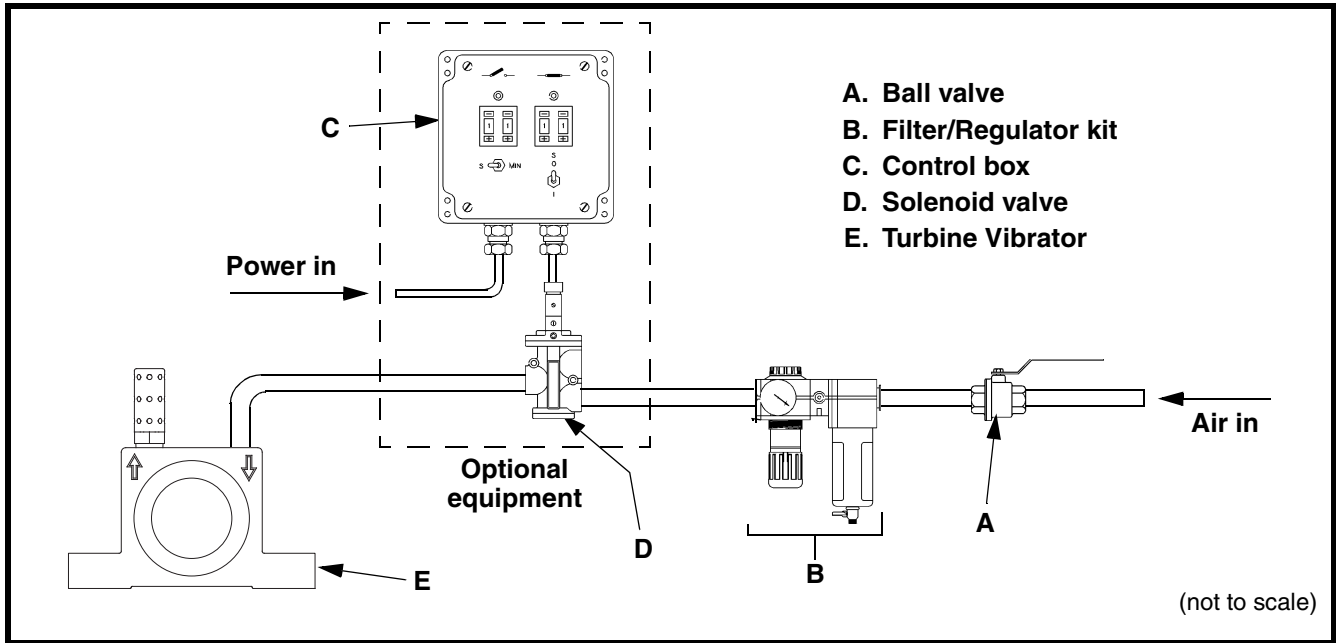

Figure 3. Connecting Air Lines to Vibrator
- a. See Figure 3. Connect air line to ball valve (A) and Filter/Regulator Kit (B). No lubrication is required.